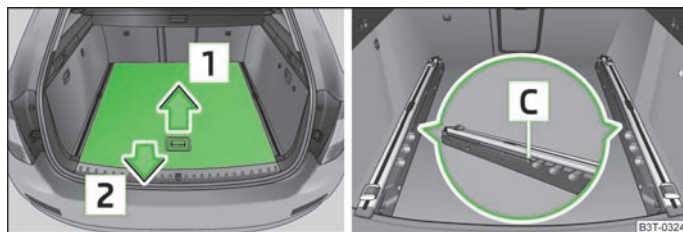
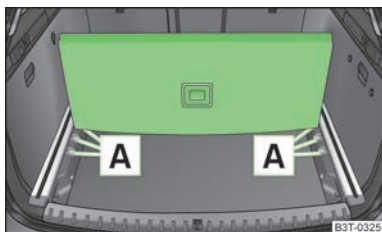

Fig. 73 Luggage compartment: partially pulling out the variable loading floor
Fig. 74
- Grasp the rear part of the variable loading floor by the handle, raise it slightly in the direction of the arrow **1** » Fig. 73 and pull it out over the bumper in the direction of the arrow **2** until it engages in the opening **C** » Fig. 73.
- Grasp the rear part of the floor by the handle, raise it in direction of arrow **1** » Fig. 73 and insert the rear edge in one of the openings **A** » Fig. 74.